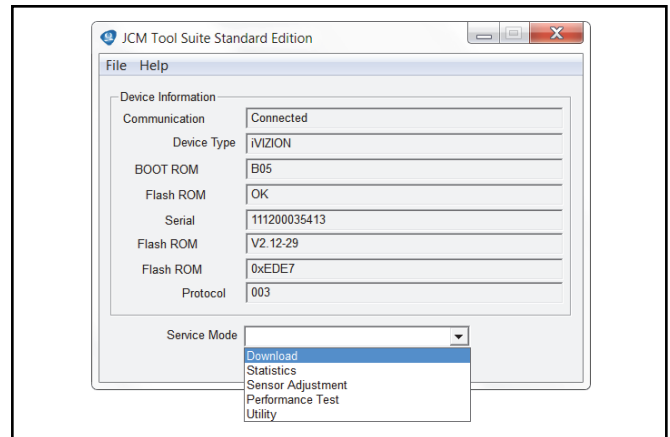

Figure 2 JCM Tool Suite Standard Edition v1.35
**Answer:** JCM Tool Suite Version 1.35 (Figure 2) includes updates to the Download, Statistics and Calibration applications. These updates include: